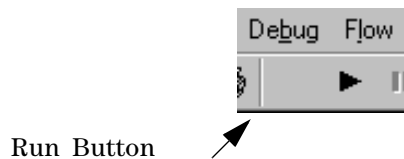

Figure 32 The **Run** button on the Tool Bar
- 3 Click the **Run** button. It looks like a small arrowhead, and is located on the tool bar below the Debug menu as shown in Figure 32.